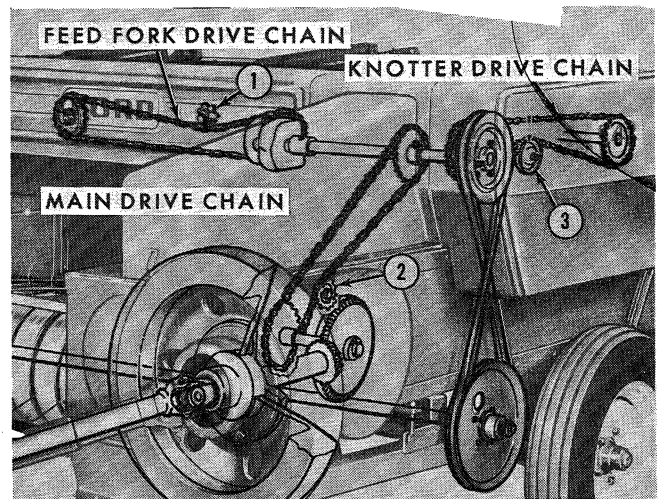

Figure 32
1. Loosen the main drive chain tightener (2), Figure 32.
The main drive chain, knotter drive chain, and feed fork drive, shown in Figure 32, must be kept in proper adjustment to obtain long chain life and trouble-free operation. The chains should be adjusted to allow a slight flexing in the slack strand. A tight chain imposes too much strain on the working parts, causing premature wear. An excessively loose chain will cause vibration, noise, and possible jumping. Each chain is adjusted with a chain tightener located at (1), (2), and (3), Figure 32.